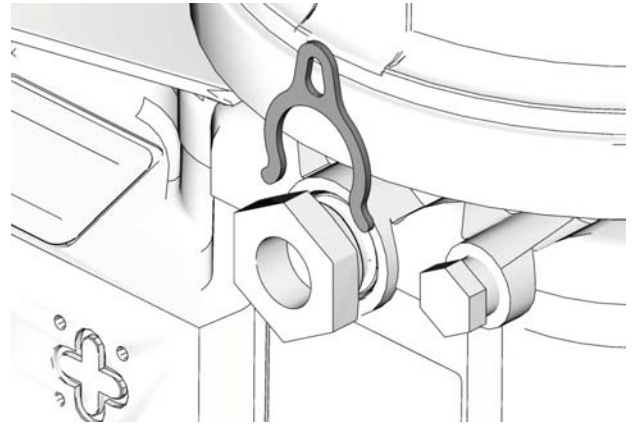

FIG. 4
Pump volume control is set using either no (0) spacers, 1 or 2 spacers (FIG. 4).